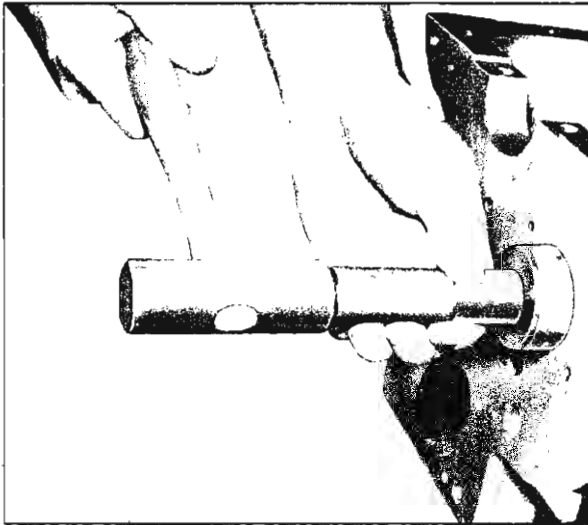

Fig. 43—Installing Front or Rear Bearing
7. Align oil hole on bearing with oil hole from oil gallery and drive bearing in from front of engine (fig. 43).